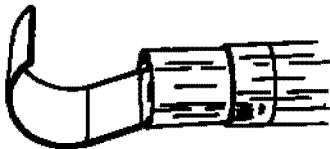

Figure 8. TG-13 Reflector
b. TG-13. Used for heating solder termination sleeves and shrinking large-diameter tubing. Used for short lengths of tubing from 3/4 inch to 2 inches in diameter and has to be ordered separately (Figure 8).